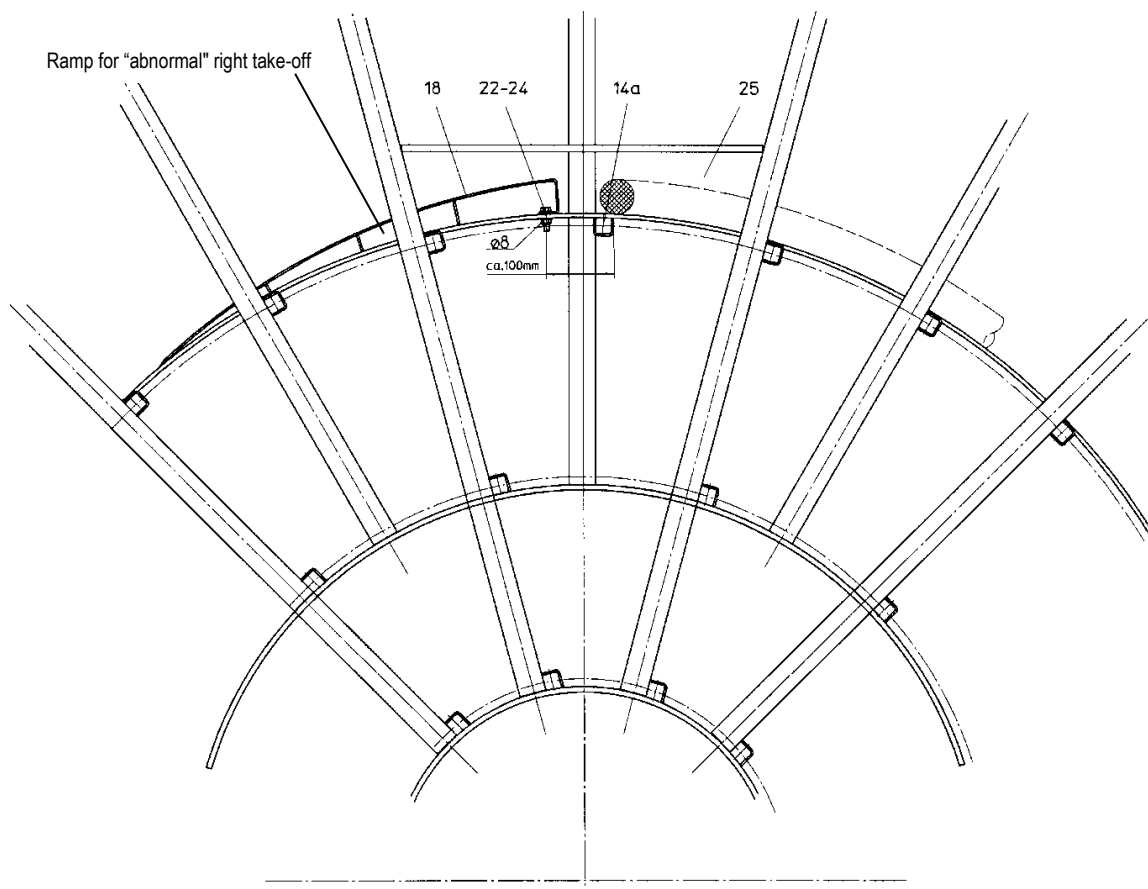

Figure 12. Cable take-off uncommon / right (looking onto the reel wheel from outside, gearbox and drive hidden from view).
Depending on the reel width, there may be a ramp provided for the cable entry (see Figures 12 and 13).
The ramp (18) is attached to the reel mantle (4) in such a way that the first winding layer transitions to the second winding layer without kinking. winding layer transitions to the second winding layer without kinking. winding layer without kinking. This also avoids crushing the cable in the area of the cable entry. Kinking and crushing must absolutely be avoided in cables with fiber optics. To this end, a hole Ø8 or Ø9 must be drilled at a distance "g" from the U profile of the reel mantle (Figures 12 and 13). The orientation of the drill hole is based on the diameter of the cable.